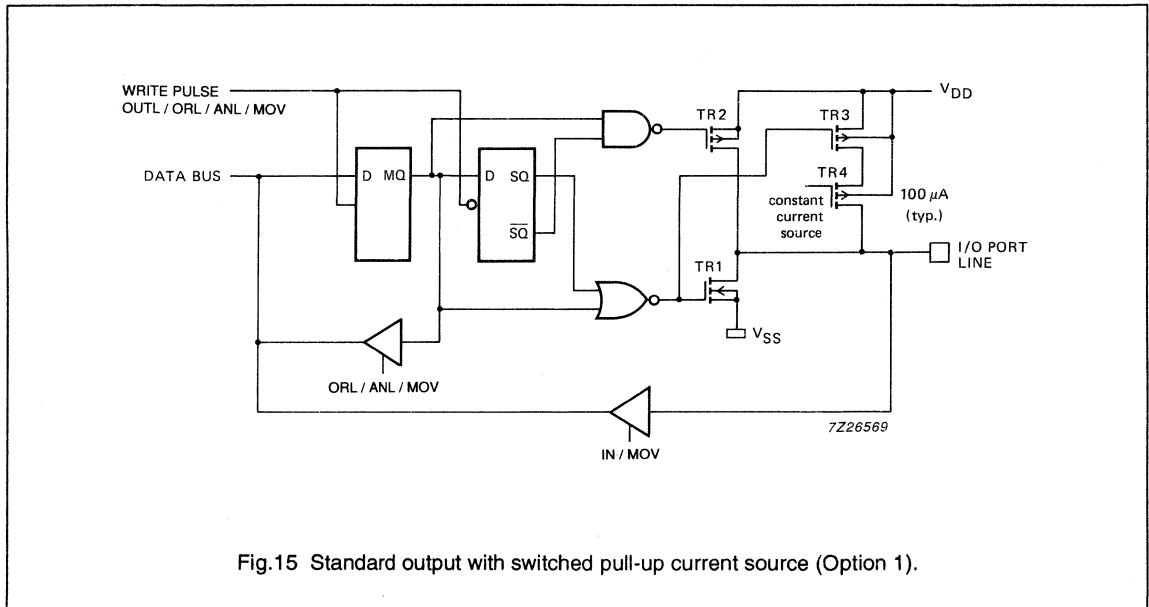

Fig.15 Standard output with switched pull-up current source (Option 1).
- Option 1: Standard port with switched pull-up current source (see Fig. 15).